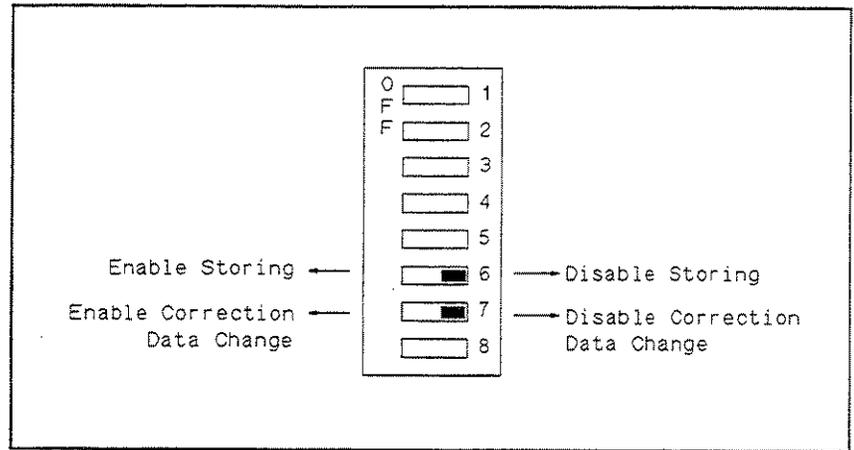

Figure E-2. Write Protection Switch
8. Set A7S3-6 to the right-most position (ON) to disable HP 4284A's STORE function. Set A7S3-6 to the left-most position (OFF) to enable storing. Refer to Figure E-2.
9. Set A7S3-7 to the right-most position (ON) to disable to change all of the correction settings on the *CORRECTION* page. Set A7S3-7 to the left-most position (OFF) to enable to change all of the correction settings on the *CORRECTION* page. Refer to Figure E-2.